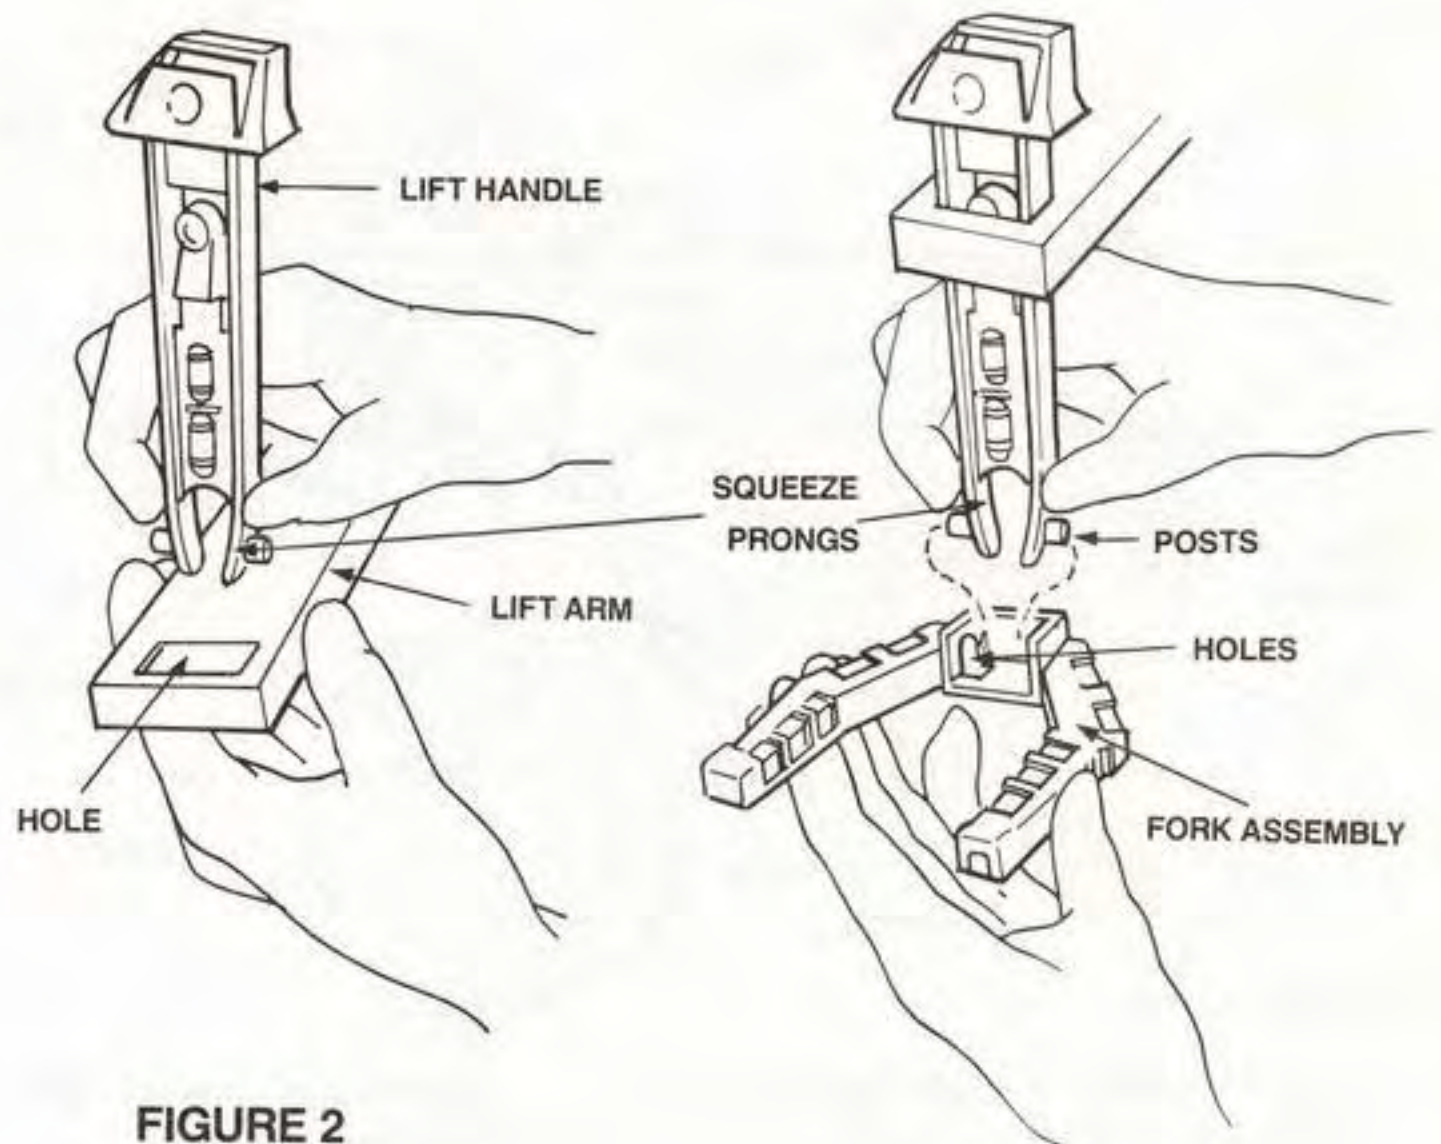

FIGURE 2
1. Remove cardboard insert from square HOLE on end of TELESCOPING LIFT ARM at back of vehicle. Pull LIFT ARM outward from vehicle. (Figure 2).
2. Insert LIFT HANDLE into square HOLE of LIFT ARM from the top. (Figure 2).